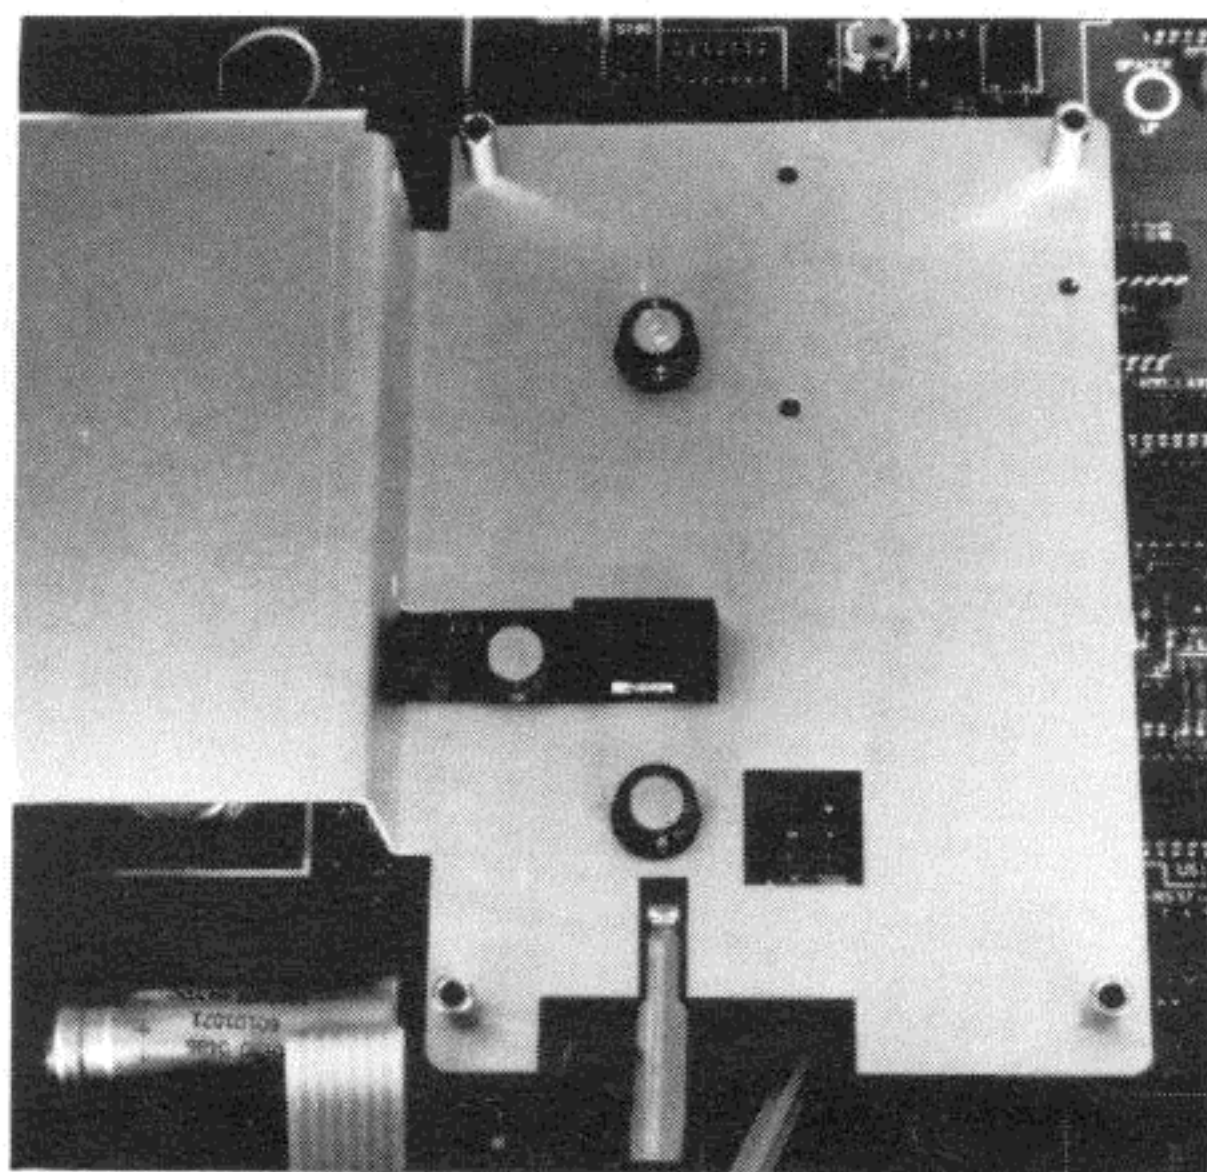

Figure 1-8-11. Set Bottom Shield in Place
- b. Set the bottom shield in place as shown in Figure 1-8-11. Now replace the front panel.
Figure 1-8-11 shows the shield used when the HP-IB option is installed. If the instrument does not have the HP-IB option, the shield is different than what is shown. The HP-IL shield extends over the rear panel HP-IL connector and has longer standoffs to make the option in slot 2 align properly.